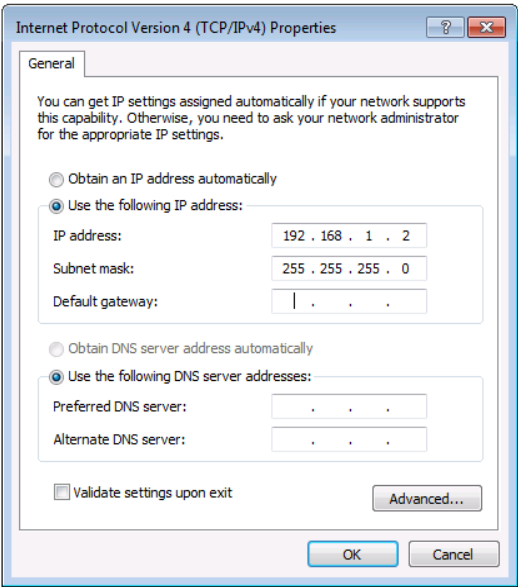

Figure 10: Internet Protocol Properties Window
5. Select **Use the following IP Address** for static IP addressing and fill in the details as shown in Figure 10.